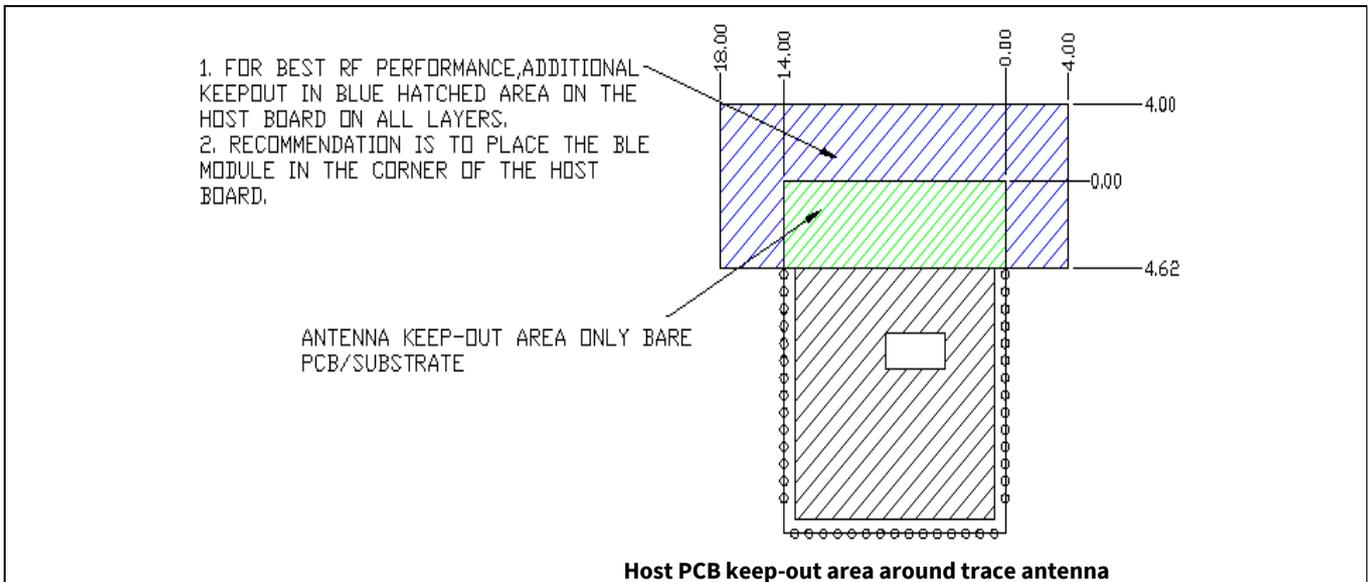
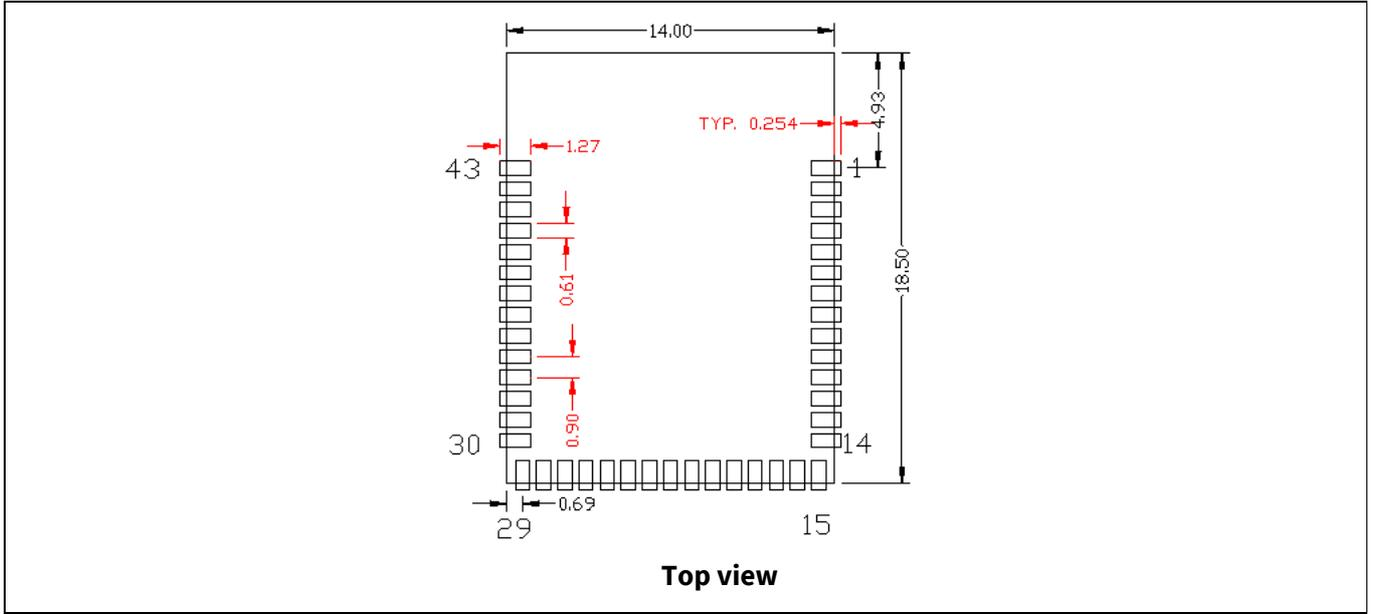
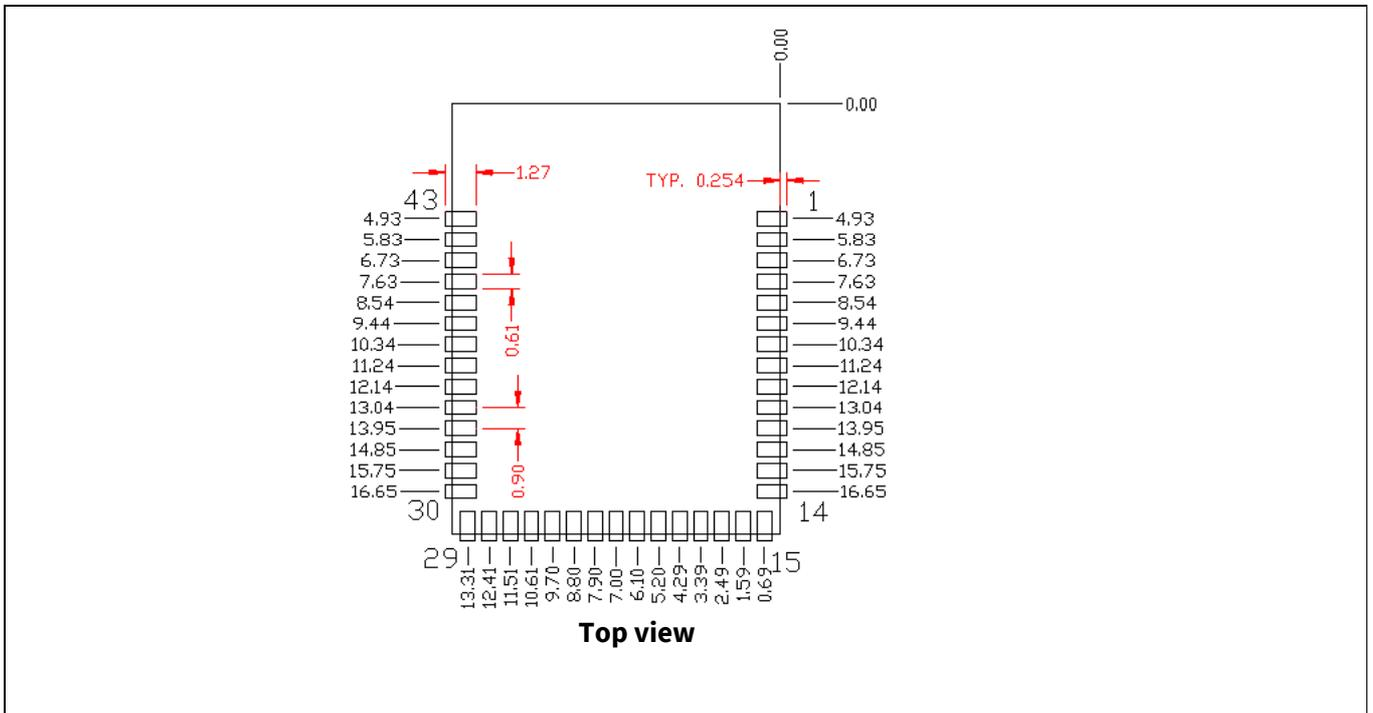
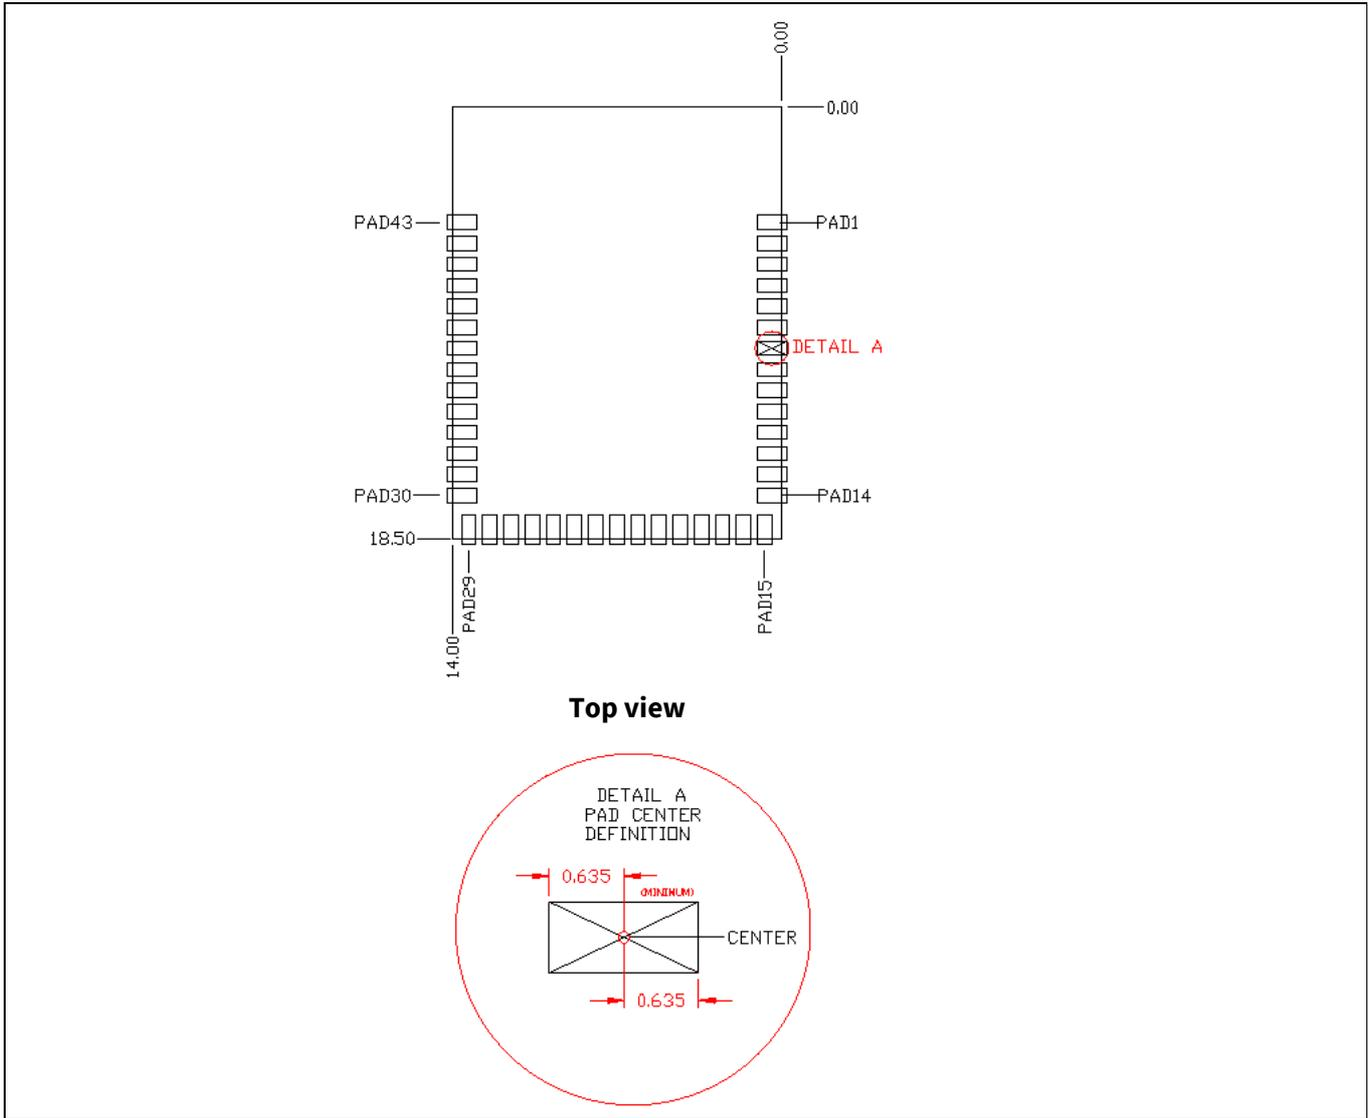

Figure 14 Recommended host PCB keep-out area around the CYBLE-416070-02 trace antenna
Figure 15 Host layout pattern for CYBLE-416070-02
Figure 16 Module pad location from origin
Figure 17 Solder pad reference location
- 2. No metal should be located beneath or above the antenna area. Only bare PCB material should be located beneath the antenna area. For more information on recommended host PCB layout, see Figure 14, Figure 15 and Figure 16, and Figure 17 and Table 9.
1. The ideal placement of the Infineon Bluetooth® LE Module is in a corner of the host board with the antenna located on the edge of the host board. This placement minimizes the additional recommended keep-out area stated in item 2. Refer to **AN96841** for module placement best practices.
2. To maximize RF performance, the area immediately around the Infineon Bluetooth® LE Module trace antenna should contain an additional keep-out area, where no grounding or signal traces are contained. The keep-out area applies to all layers of the host board. The recommended dimensions of the host PCB keep-out area are shown in **Figure 14** (dimensions are in mm).
Figure 15 through Figure 17 and Table 9 provide details that can be used for the recommended host PCB layout pattern for the CYBLE-416070-02. Dimensions are in millimeters unless otherwise noted. Pad length of 0.99 mm (0.494 mm from center of the pad on either side) shown in Figure 17 is the minimum recommended host pad length. The host PCB layout pattern can be completed using either Figure 15, Figure 16, or Figure 17. It is not necessary to use all figures to complete the host PCB layout pattern.
Table 9 provides the center location for each solder pad on the CYBLE-416070-02. All dimensions reference the to the center of the solder pad. Refer to **Figure 17** for the location of each module solder pad.